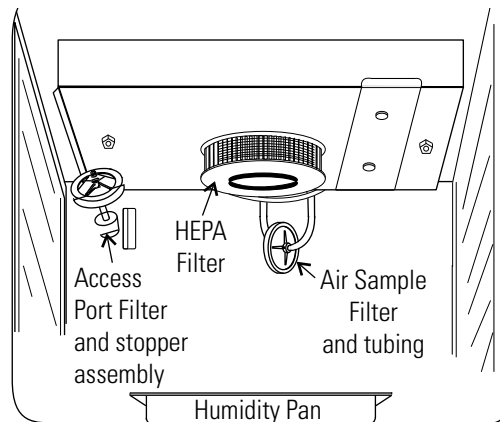

Figure 5-1. Component Locations
1. Remove the shelves, access port filter assembly, HEPA filter, air sample filter and tubing, and the left and right duct sheets. Discard the HEPA filters and the access port filter assembly. See Figure 5-1.